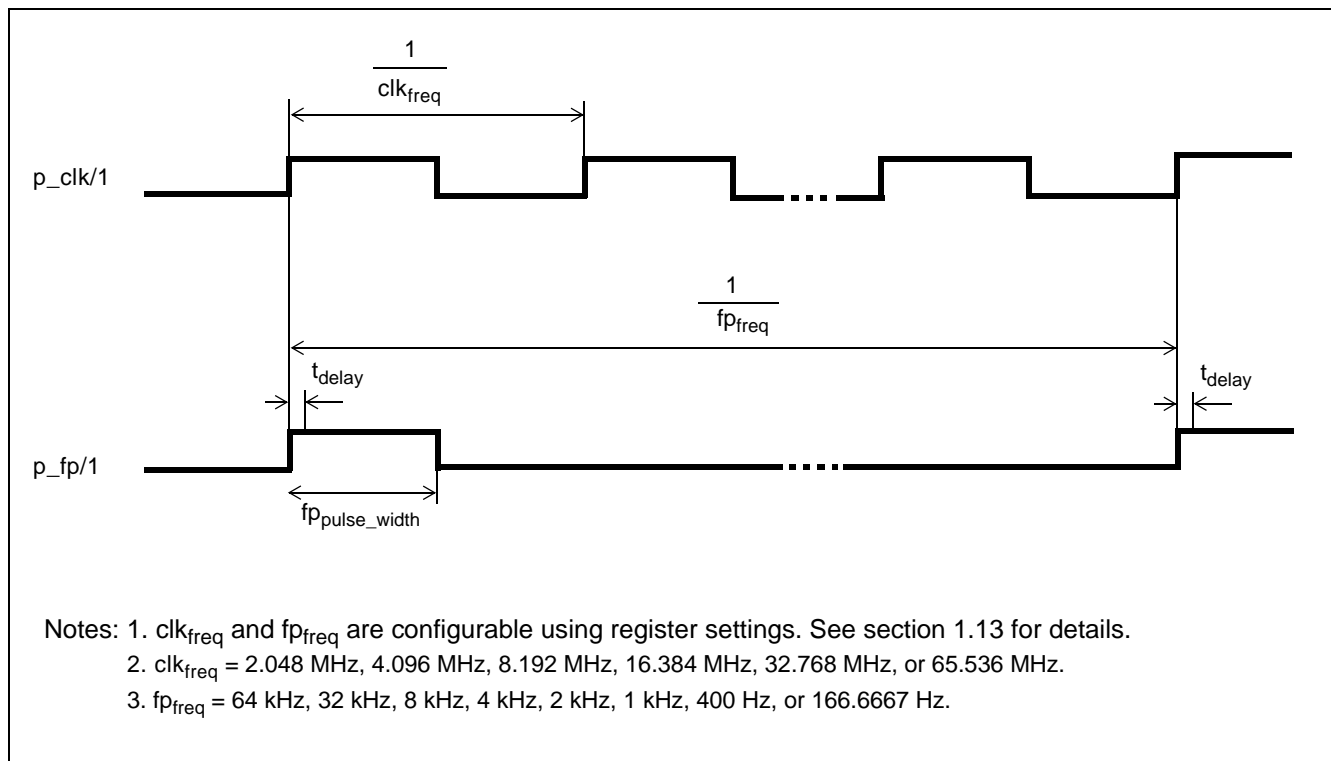

**Figure 31 - Output Clock Fall and Rise Times**
**AC Electrical Characteristics\* - Output Clock and Frame Pulse Fall and Rise Times1 (See Figure 31).**